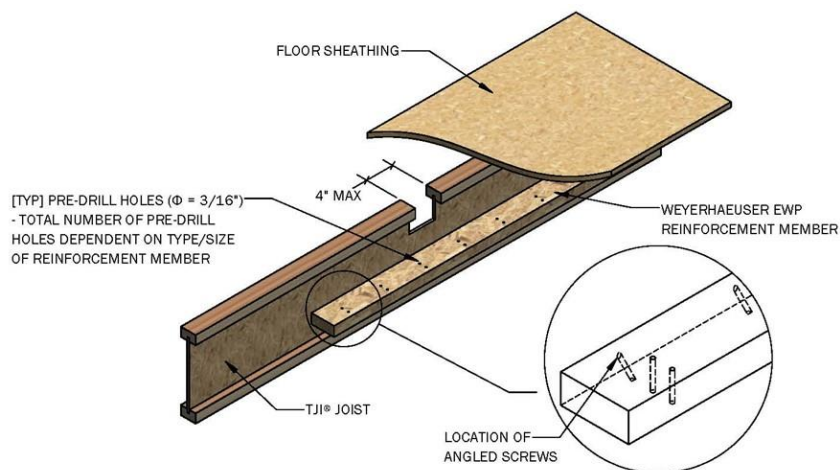

Figure 2: Pre-drill all holes in the reinforcement member.
- Two (2) rows of vertical screws if 1½" or 1¾" x 3½" TimberStrand® LSL.
- One (1) row of vertical screws if TJI® joist LVL flange.
- See Figure 2 for additional information.